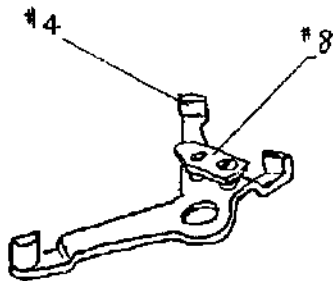

fig. 3
b. Free Wind Operation Stub #8 featured on Calibration Lever #4 is not retained securely in position (See Fig. 3).